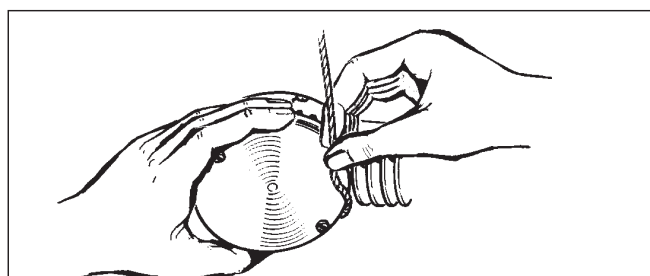
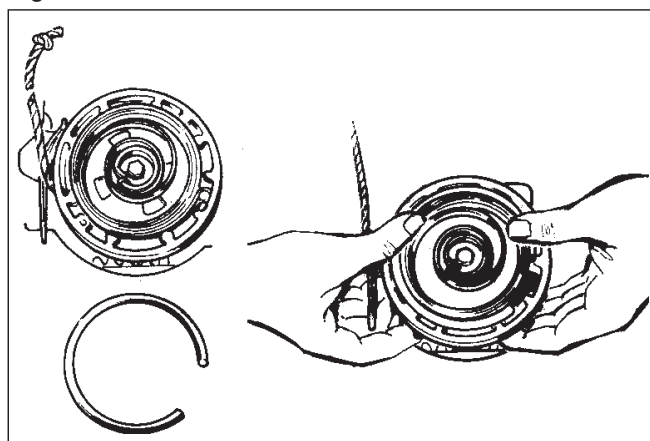

Fig. 10
Fig. 11
- Release main spring tension (5) by removing the handle and sliding the rope (12) out of the rope clip (16). (Fig 10).
- Remove the two screws (1) and spring cover (2). The spring (5) may be replaced at this point without further disassembly.
- Carefully remove old spring and place new spring complete with keeper in position and push spring into place in the container. (Fig 11).